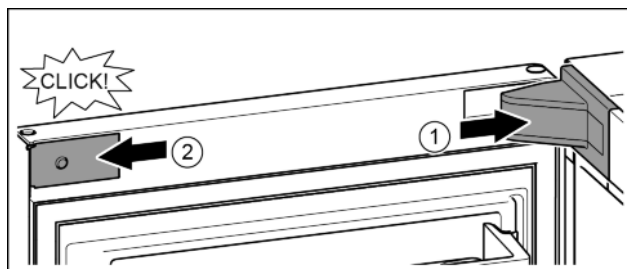

Fig. 23
- ▶ Position the bearing bracket and engage. If necessary push apart carefully. *Fig. 23 (1)*
- ▶ Position the panel on the side and click into place. *Fig. 23 (2)*